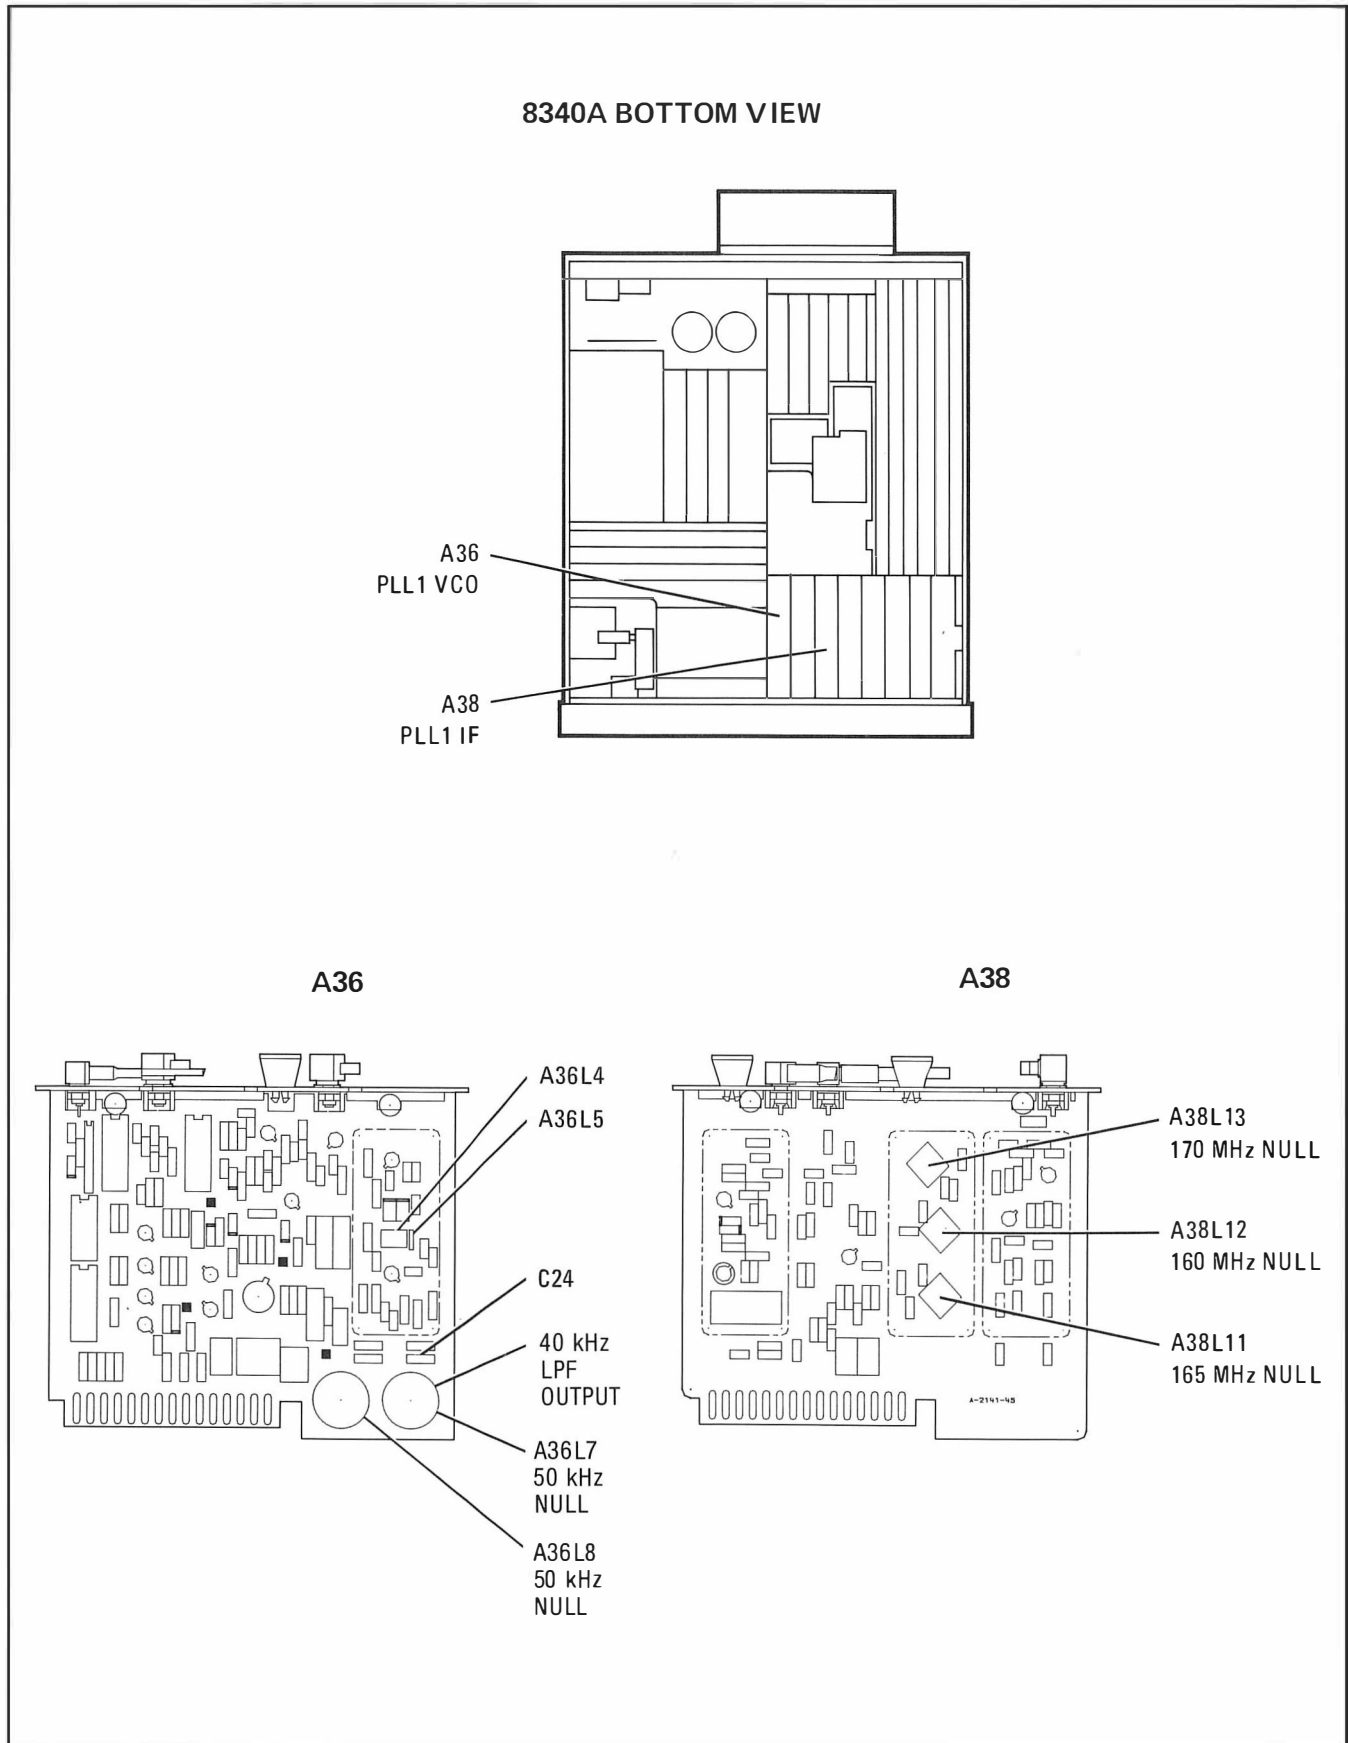

Figure 5-13. Location of PLL1 Adjustments
48. Connect active probe to Spectrum Analyzer input and connect probe to output of 40 kHz LPF on A36 (see Figure 5-13). (This is the terminal on A36L7 next to A36C24.)
52. Adjust A36L7 and A36L8 50 kHz NULL adjustments to null the 50 kHz signal displayed on the Spectrum Analyzer. Refer to Figure 5-13 for location of adjustments.